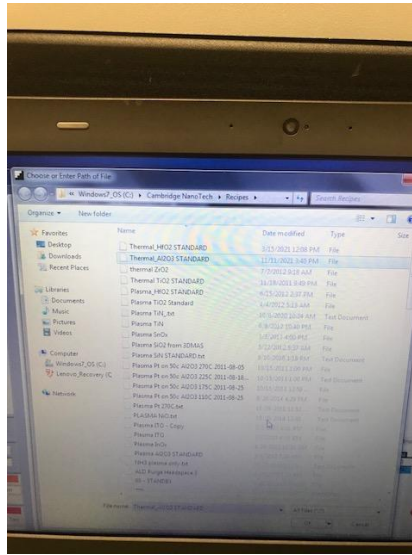

Figure 8: Recipe Window
- 9.6.3. Select the recipe you would like to run. **Figure 8.**